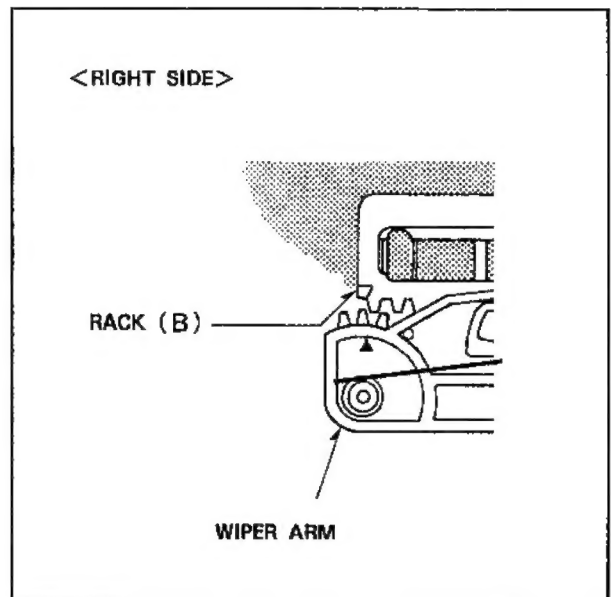

Fig.M48
3. Press the Wiper Arm to direction indicated by arrow mark so that the Wiper Arm comes to cassette down position completely as shown in Fig.M48. Confirm a triangle mark on the Wiper Arm aligns with the mark on the Rack (B) Unit.